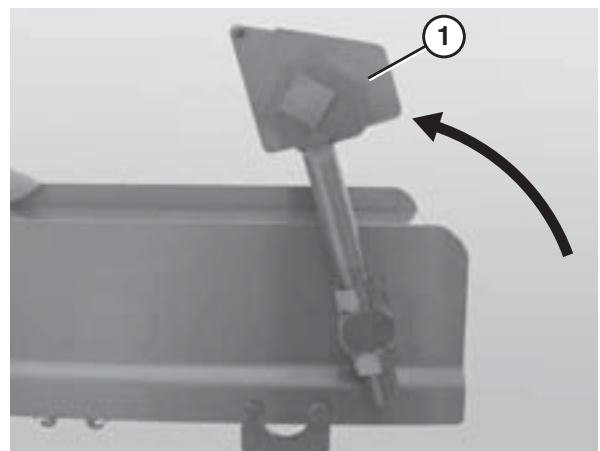

Figure 28
1. Place the idler tail (Figure 28, item 1) in the up position.